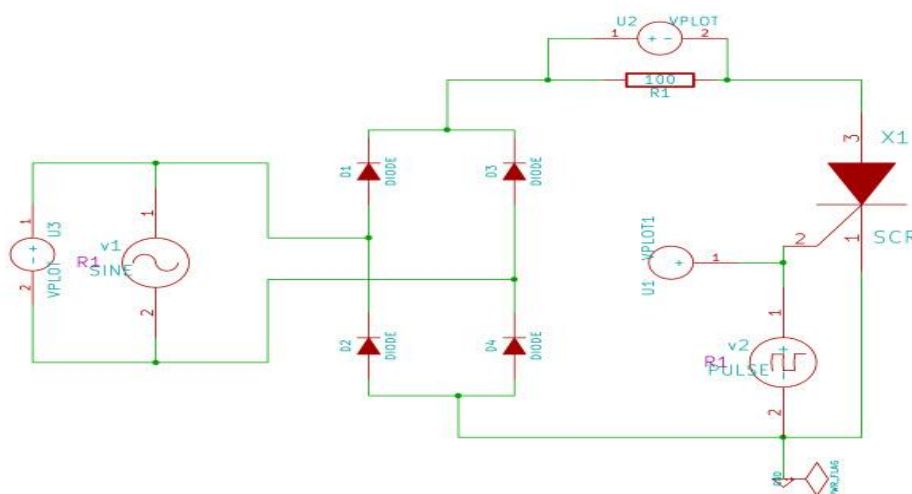

Fig. 2.1 FreeEDA schematic of full wave rectifier.
1. Create the schematic of the fully controlled rectifier as shown in Fig. 2.1.